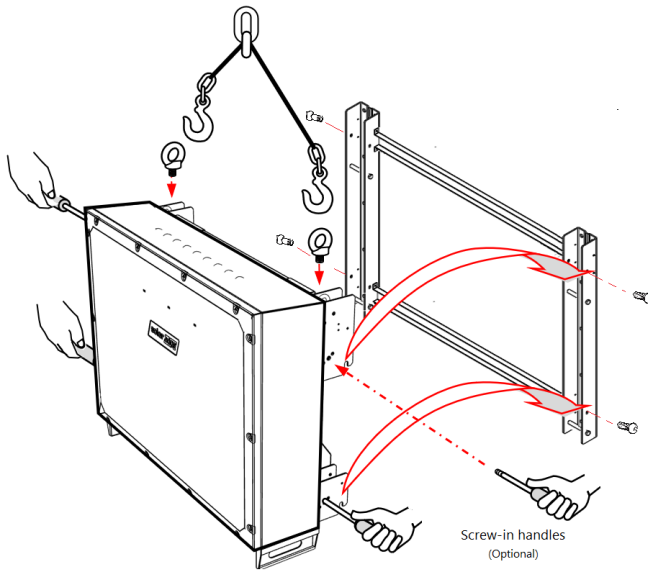

Figure 22: Mounting the inverter before wiring is laid down
1. If optional screw-in handles are used, anchor the screw-in handle to any point at the inverter (see *Figure 22*).
4. Align the four hangers on the back inverter enclosure with the mounting bracket and lower the inverter until it rests on the bracket evenly (see *Figure 22*).
7. Align the four hangers on the back inverter enclosure with the mounting bracket and lower the inverter until it rests on the bracket evenly (see *Figure 22*).